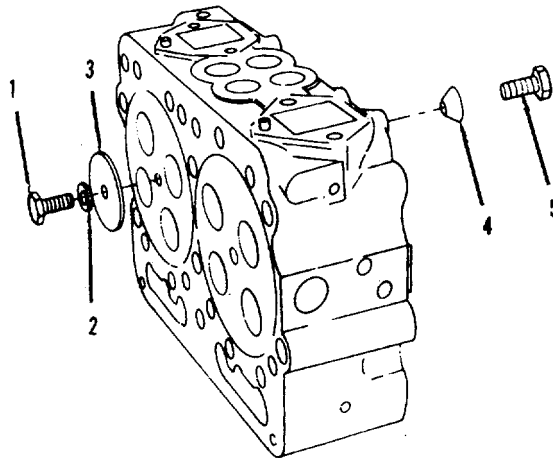

FIGURE 4-4. Injector Sleeve Holding Tool.
- (1) Install two injector sleeve holding tools in each cylinder head, (FIGURE 4-4). Each injector sleeve holding tool consists of 2 hex head capscrews (1, 5), flat washer (2), anvil (3) and mandrel (4).